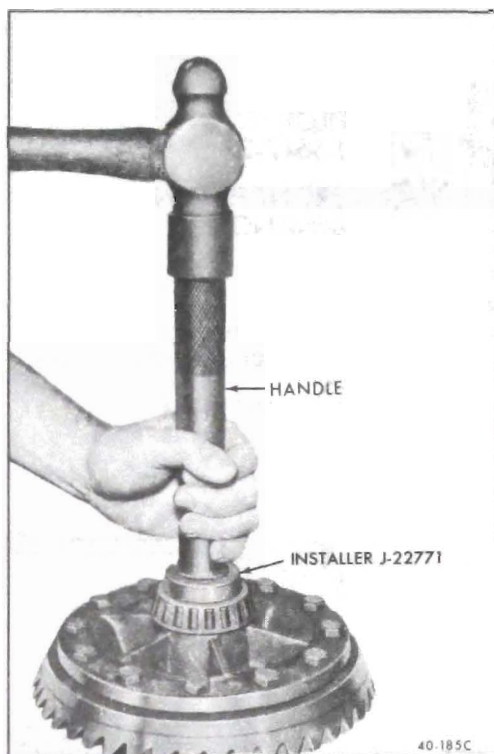

Figure 40-155 Installing Differential Side Bearings
8. If differential side bearings were removed, install new bearings using Installer J-22771 with Driver Handle J-8092. See Figure 40-155.